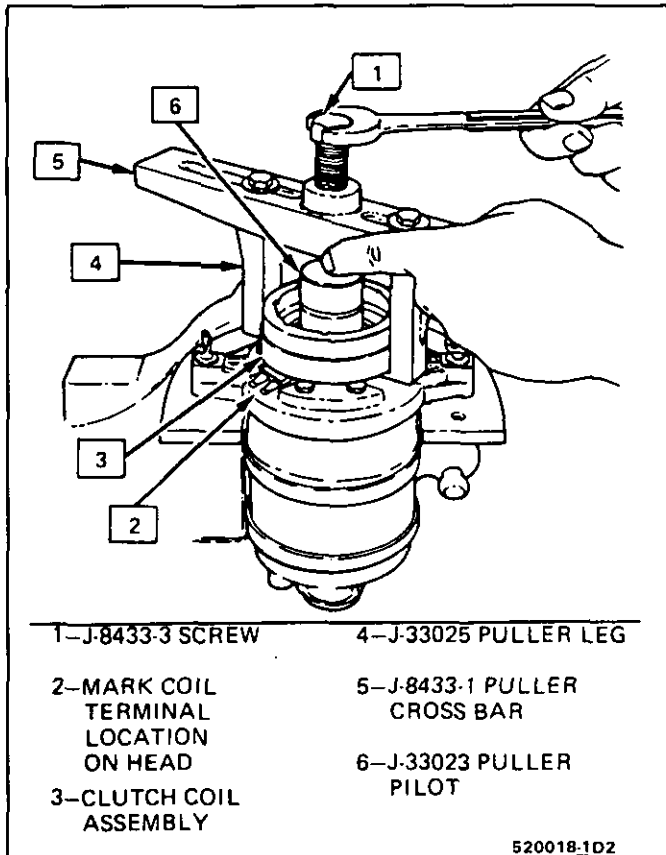

Fig. 18 Clutch Coil Assembly Removal
2. Install J-33023 puller pilot on front head of compressor (Fig. 18). Also install J-8433-1 puller crossbar with J-33025 puller legs as shown in Fig. 18.